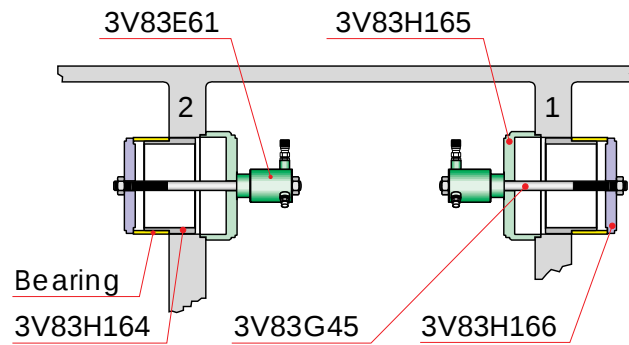

Fig 14-4
- 2** Assemble the mounting device according to Fig 14-4. Notice the difference in tool assembly for the bearing next to the flywheel end of the engine.